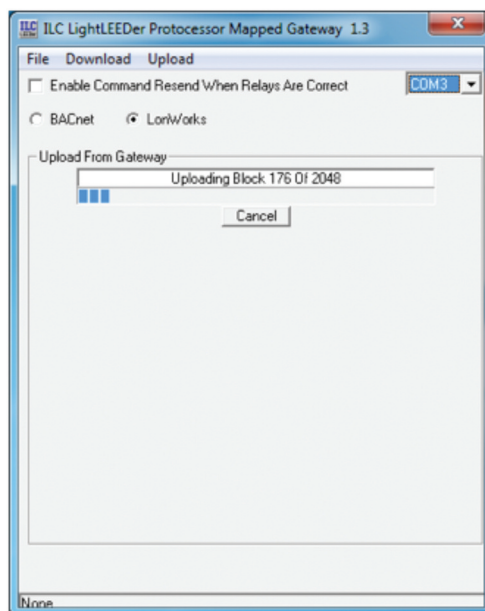

Figure 3.3 Uploading the file from the Gateway
-**Upload Programming:** To upload from the Gateway to the PC, set the protocol to the hardware installed, and then select "Upload" from the title bar to start the transfer. Once the upload is complete it will be verified by the program. See figures 3.3 and 3.4